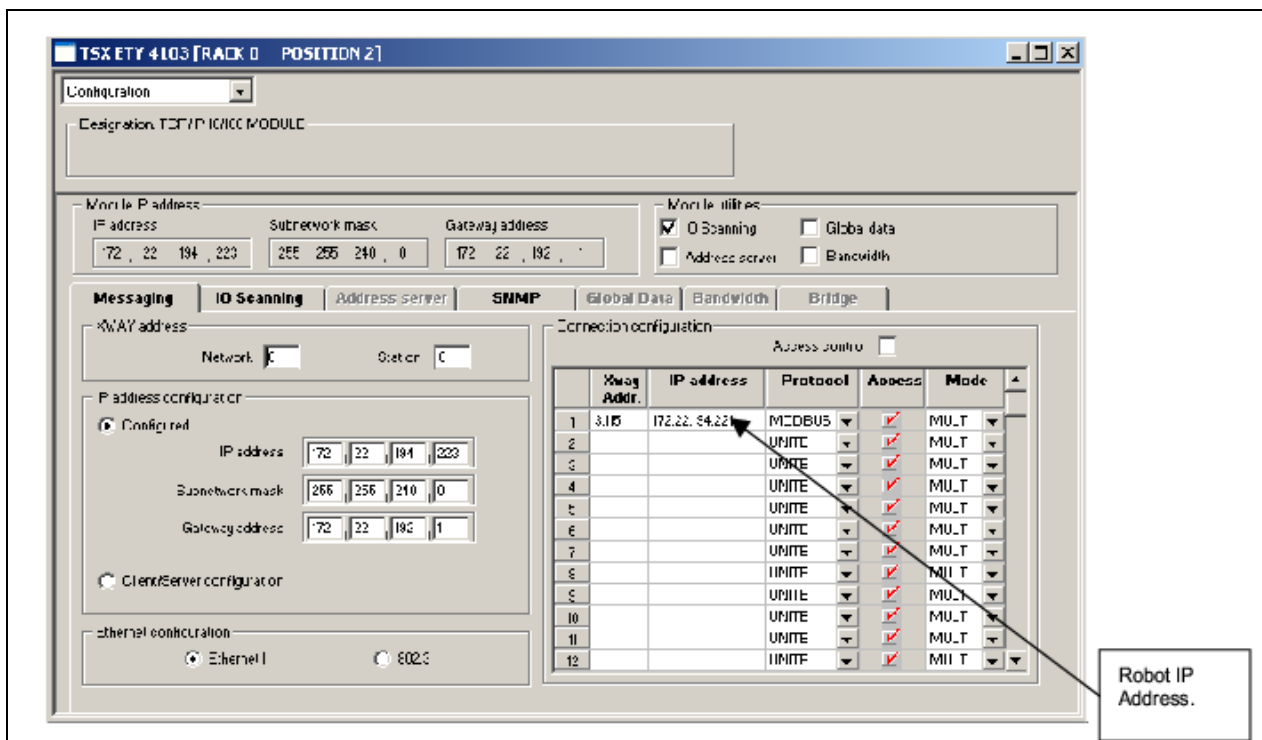

Fig. 3.3 IP address
3. Enter the IP address of the robot in the IP address field in the Connection Configuration section. See Fig. 3.3.